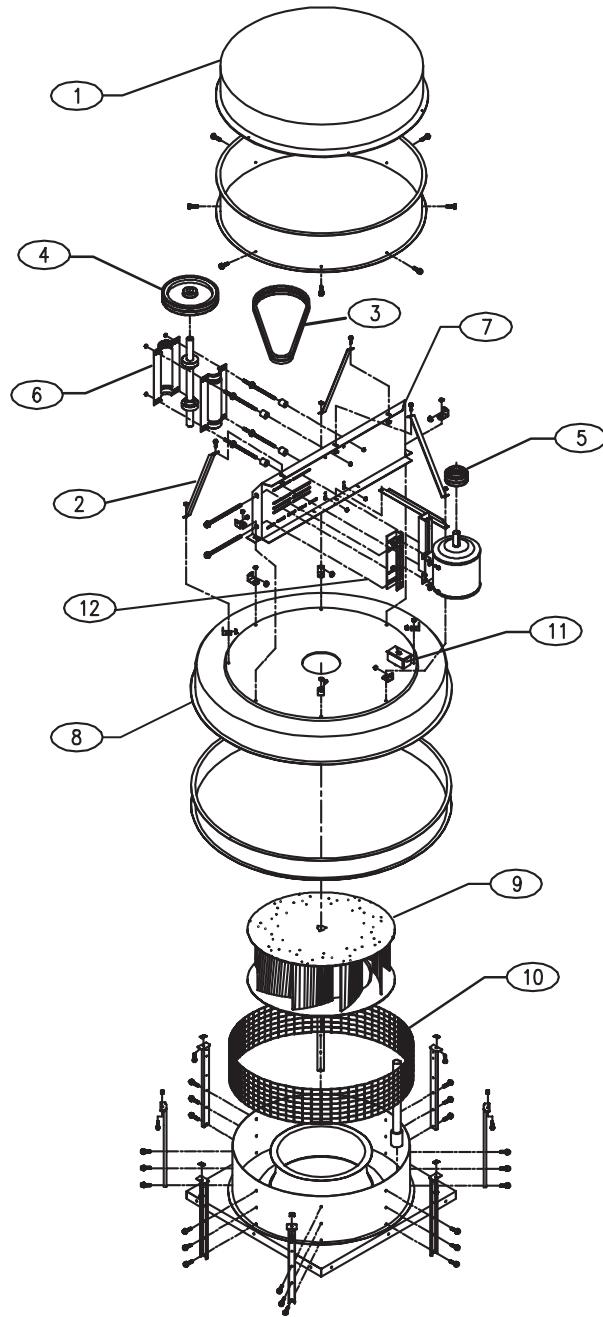

Figure 2
For fan sizes 260 through 543, refer to Figure 2. Motor adjustment rails are provided. Most motors for these sizes are shipped separately. The motor is to be bolted to the motor adjustment rails using the motor mount bolts, nuts and washers. Install belt(s) and check for tension. Belt tensioning is accomplished by loosening the motor adjustment rail bolts and nuts, and also the belt jack locknut. The two (2) belt jack bolts are then turned clockwise to tighten the belt. After proper belt tension is reached, the motor adjustment rail bolts and nuts and belt jack locknuts must be tightened. The proper belt